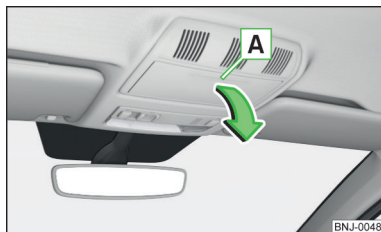

Fig. 76
- To **open**, press on the outer edge of the glasses compartment in area . The compartment folds in the direction of the arrow » Fig. 76.